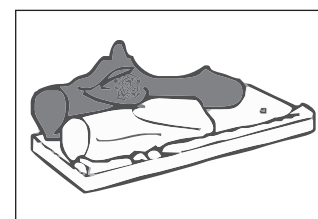

FIG 23
- b) Place log #2 onto the 2 left back pins. Refer **FIG 23**.